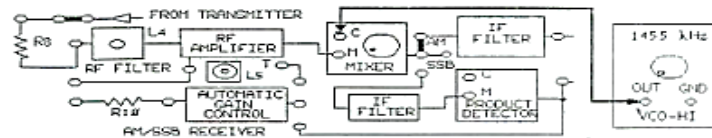

Figure 3-23.
15. As shown in Figure 3-23, connect the output of the 1455 kHz VCO-HI circuit block to the local oscillator (C) input of the MIXER. Set the VCO-HI potentiometer knob fully CW. Connect the MIXER to the IF FILTER with a two-post connector.